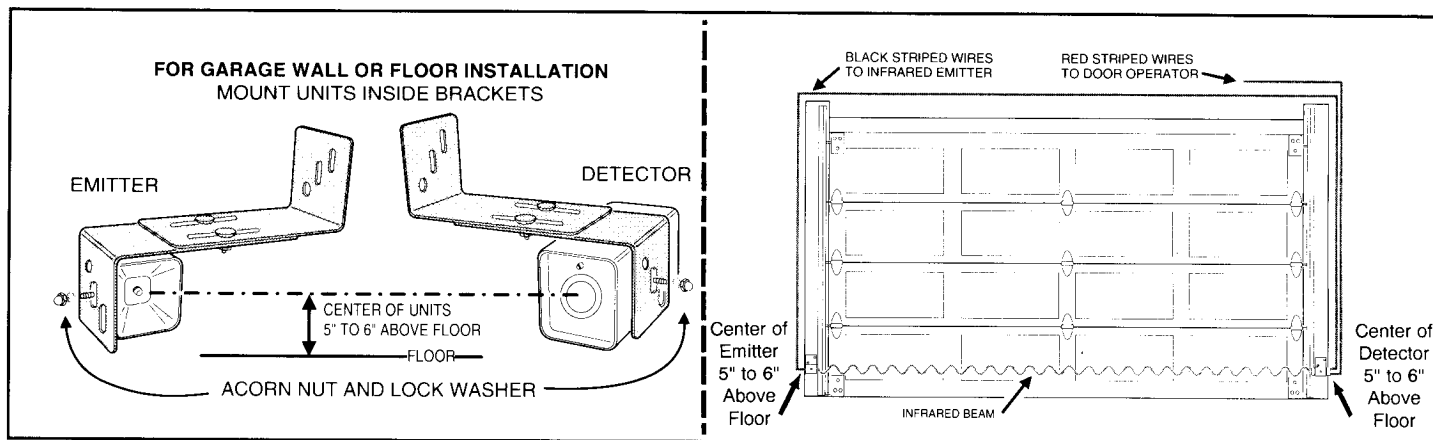
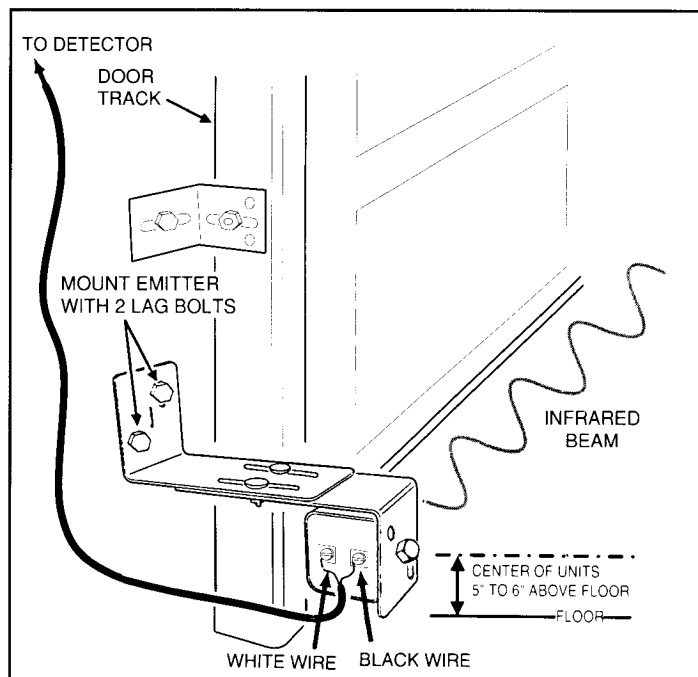

Figure 22
Figure 23
Step 44: Install emitter and detector inside garage on each side of garage door. Center of sensors must be positioned at the same height (approximately 5" to 6" above the floor). Directional arrows on the sensor labels must point toward each other and be horizontal to the floor. (See Figures 22 & 23)
Step 45: For each bracket assembly drill two 3/16" pilot holes into the wall centered into slotted holes. Fasten bracket to walls with two lag screws through slotted holes. Position bracket to be square with the floor. Tighten both lag screws (see Figure 23). For each bracket assembly, attach mating bracket using the carriage bolts and nuts, as in Figure 22. Do not completely tighten nuts yet. Position detector in bracket as shown in Figure 22. Fasten detector to bracket with acorn nut and washer. Do the same with emitter. Slide bracket unit out from wall an equal distance until beam is completely clear of garage door, door hinges, tracks, springs, rollers, or any other part of door mechanism. Tighten carriage bolts and nuts.